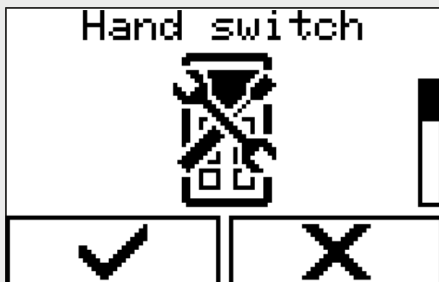

Fig. 32: Main menu
- ⇒ The main menu (Fig. 32) is displayed.